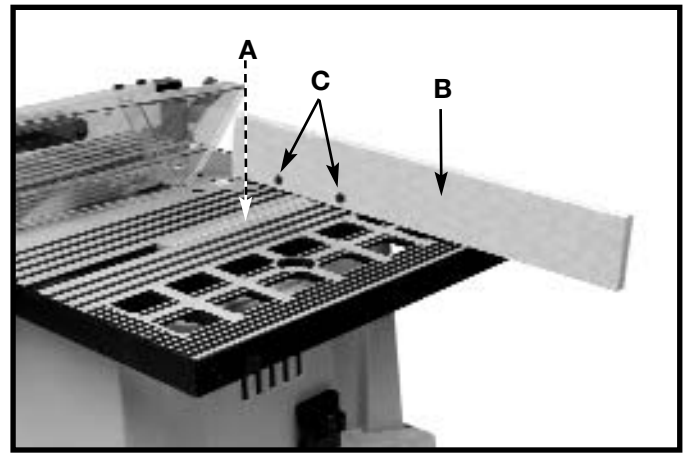

Fig. 39A
For added safety and convenience the miter gage (A) can be fitted with an auxiliary wood-facing (B), as shown in Fig. 39A, that should be at least 1 inch higher than the maximum depth of cut, and should extend out 12 inches or more to one side or the other depending on which miter gage slot is being used. This auxiliary wood-facing